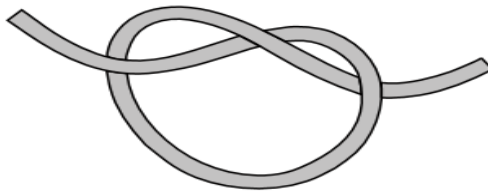

Figure 2-26. Overhand Knot.
a. Overhand Knot. The overhand knot is used to secure pigtails at the end of a primary knot (see fig. 2-26).